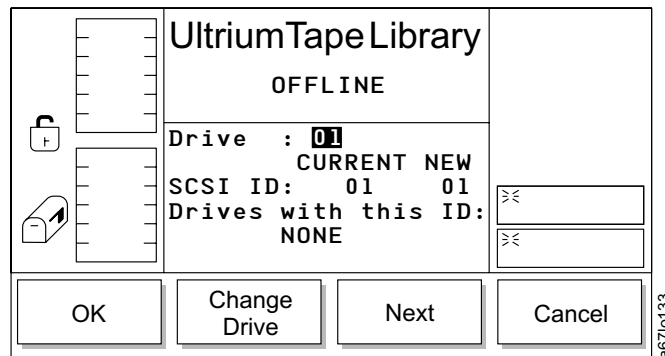

Figure 146. Drive SCSI Dialog
- If **SCSI** is selected, the Drive SCSI Dialog displays (see Figure 146 on page 125).
- If **Next** is selected, the Drive SCSI ID Dialog displays (see Figure 146 on page 125).